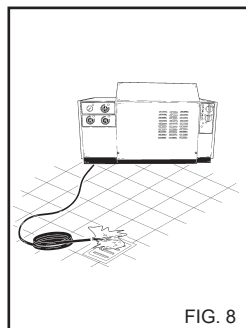

FIG. 8
**To eliminate any impurities or air bubbles from the water circuit we advise starting the cleaner for the first time without the lance and letting the water run out for a few seconds. Impurities could block the nozzle and cause malfunction (Fig. 8).**
- 4) After using with detergent, flush out the intake circuit; place the detergent suction hose (fig. 8) in a tank of clean water and let the pump run for 1 minute with the dosing tap turned fully on and the lance in detergent delivery condition.